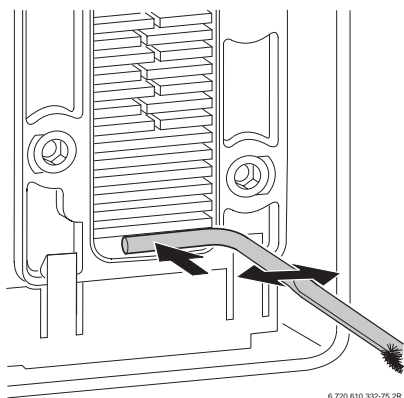

Fig. 51
- Flush the heat exchanger from the top. Refer to fig. 51.